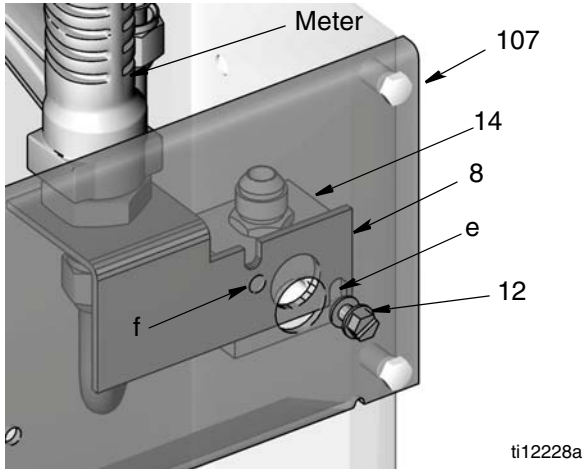
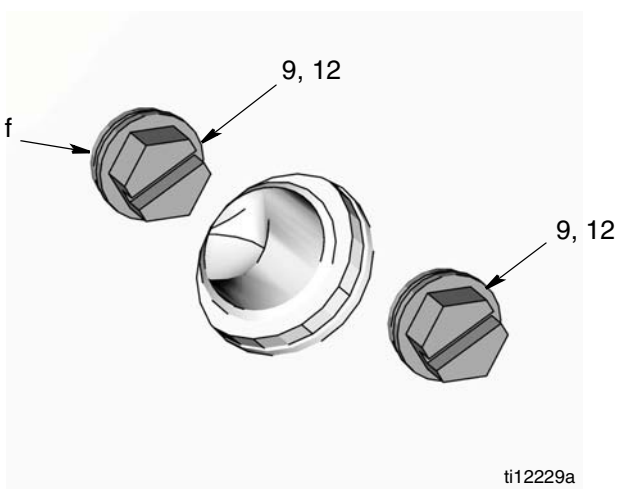

FIG. 14
FIG. 15
Bracket (8) should fit between manifold (14) and the front panel (107) and notch (e) fits over threads on screw (12) (installed in Step 3) (See FIG. 14).
5. Install washer (9) and screw (12) in opening (f) (FIG. 14 and FIG. 15). Tighten securely.